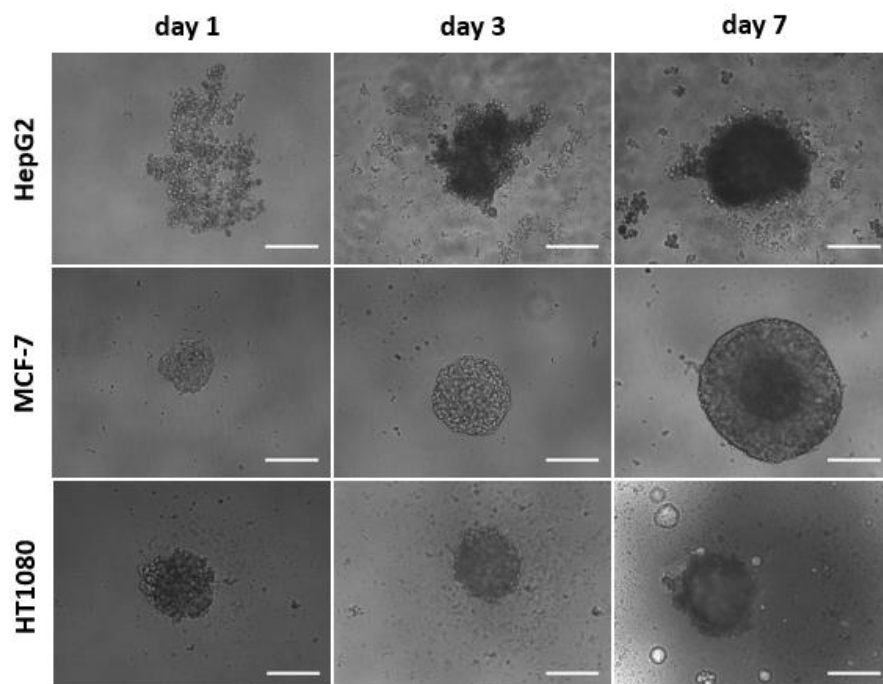

Figure 1 Spheroid formation and growth of different cancer cell lines. 500 cells/well were used as seeding concentration. (Scale bar: 200 μ m)
- Size and thus characteristics of spheroids can be controlled by adapting seeding concentration or incubation time (Figure 1).